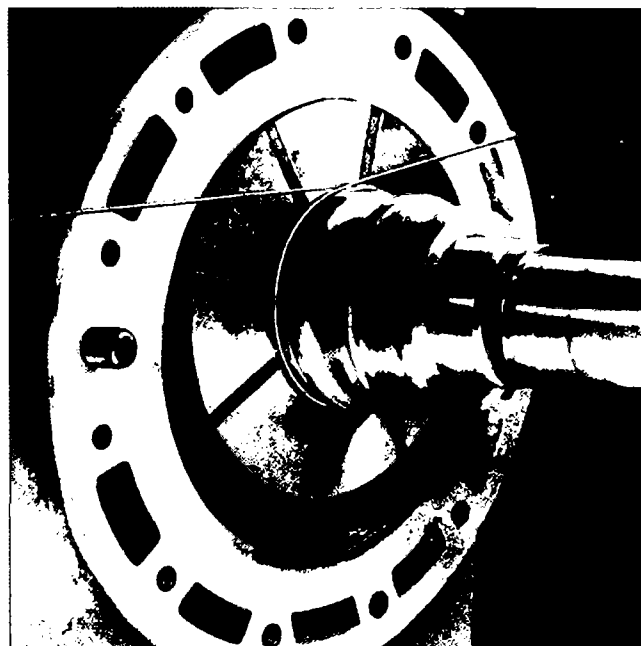

FIG. 13 — Compressing seal ring prior to replacing cylinder head.
- Seal rings require compressing with a wire loop as illustrated on Fig. 13 (Page 15) to permit the cylinder head hub bore to slide over the rings.